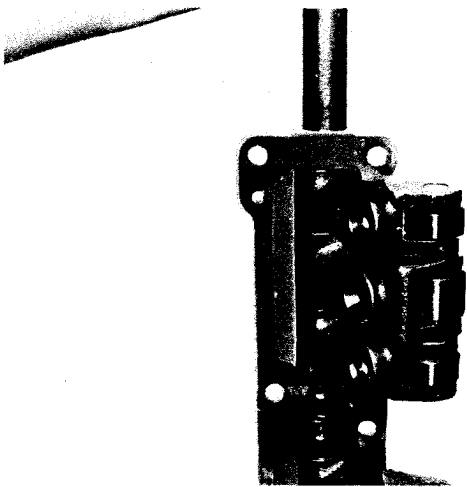

Fig. 4-16, (N10409). Installing new cup plugs
5. Use No. 3 Permatex sealant and lightly coat bore in each end of housing before plugs are pressed in. Use proper service tool to press plugs into hole. Use ST-1053 Plug Driving Mandrel with end marked 175831 to press in new cup plug until it is flush to 0.010 inch [0.25 mm] below edge of hole. Fig. 4-16.